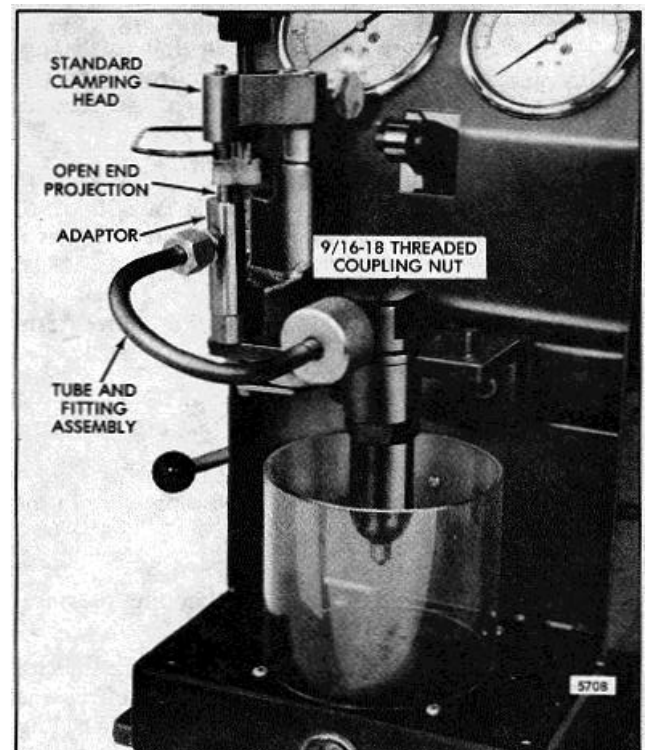

Fig. 15. Adaptor and Tube Assembly on Injector Tester J 23010
4. Mount the adaptor and assembled injector parts in the support bracket (adaptor plate not needed). Refer to Fig. 15.
2. Swing the clamping head over the adaptor and clamp it with the oil supply outlet aligned over the open projecting end of the adaptor (Fig. 15).